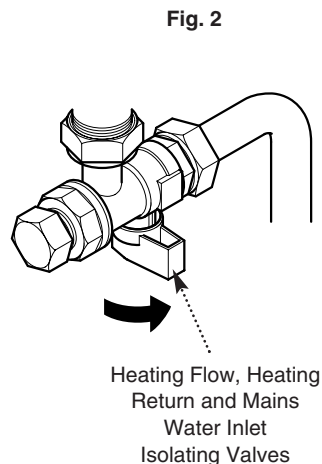

Fig. 2
3. The water isolating valves are positioned under the boiler and can be closed by turning their taps to the right towards the wall (Fig. 2).